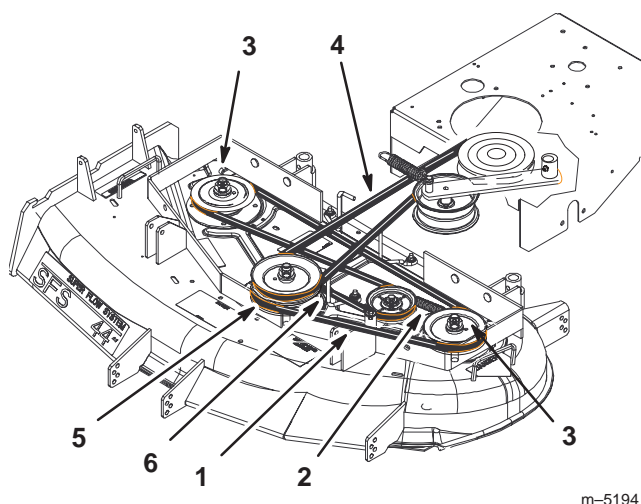

Figure 57
5. Disconnect the idler arm spring to relieve tension on the idler arm and idler pulley, then remove the worn deck belt (Fig. 57).
6. Install the new deck belt around the two outside spindle pulleys, the idler pulley, and in the lower groove of the center spindle pulley (Fig. 57).
7. Connect the idler arm spring (Fig. 57).
8. Adjust deck belt guide an 1/8 in. (3 mm) from belt (Fig. 57).